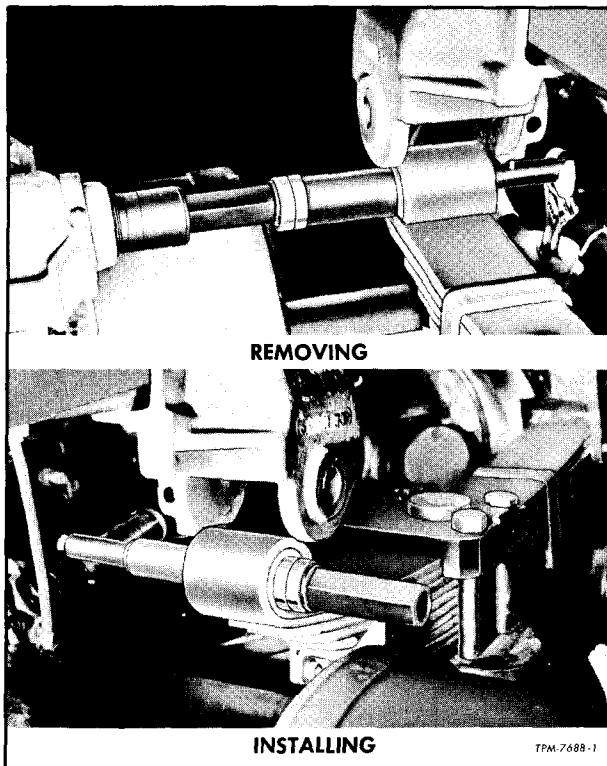

Figure 11—Tool Application for Replacing Spring Eye Bushing
2. Insert pins into plain bushings in spring eyes and bracket and check for looseness. If excessive looseness is evident, pins and bushings must be replaced. Refer to "Replacing Radius Leaf Eye Bushing" earlier in this section for bushing replacement procedure. Figure 11 shows arrangement of tools for removing and installing spring eye bushing on tandem suspension.